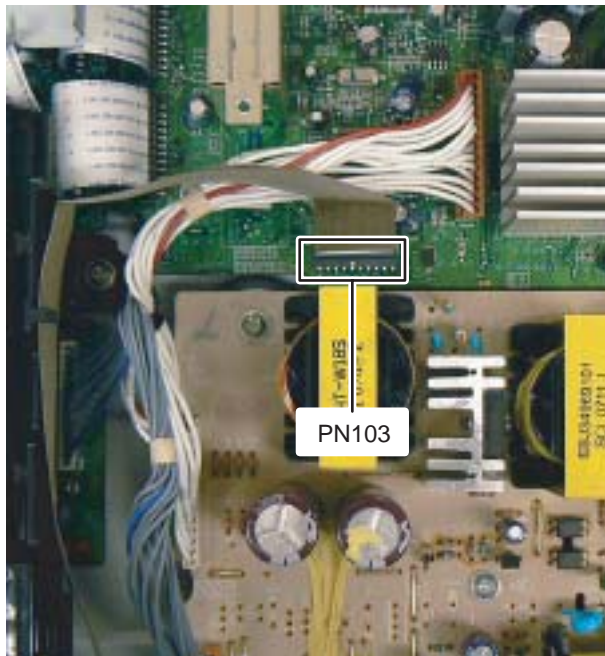

Fig.3
3.1.2 Removing the Front Panel (See Fig. 3 to 6)
- (1) Disconnect the card wire from Front panel connected to connector PN103 of the Amp board. (See Fig.3)